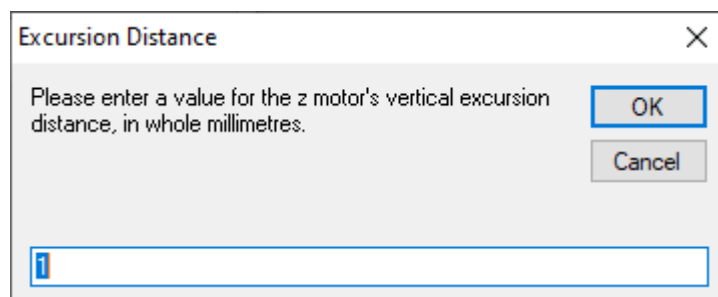

Figure 4.9: Vertical excursion distance in MSCL-S software
- The Excursion Distance control panel will be displayed if the Z motor is in use (Figure 4.9). This is the distance the Z motor will move upwards after every measurement, allowing the sensors to move clear of the core before the core advances. The excursion distance is very important if using the magnetic susceptibility point sensor, as the sensors must move up high enough to be outside the magnetic influence of the core to allow the point sensor to "zero".